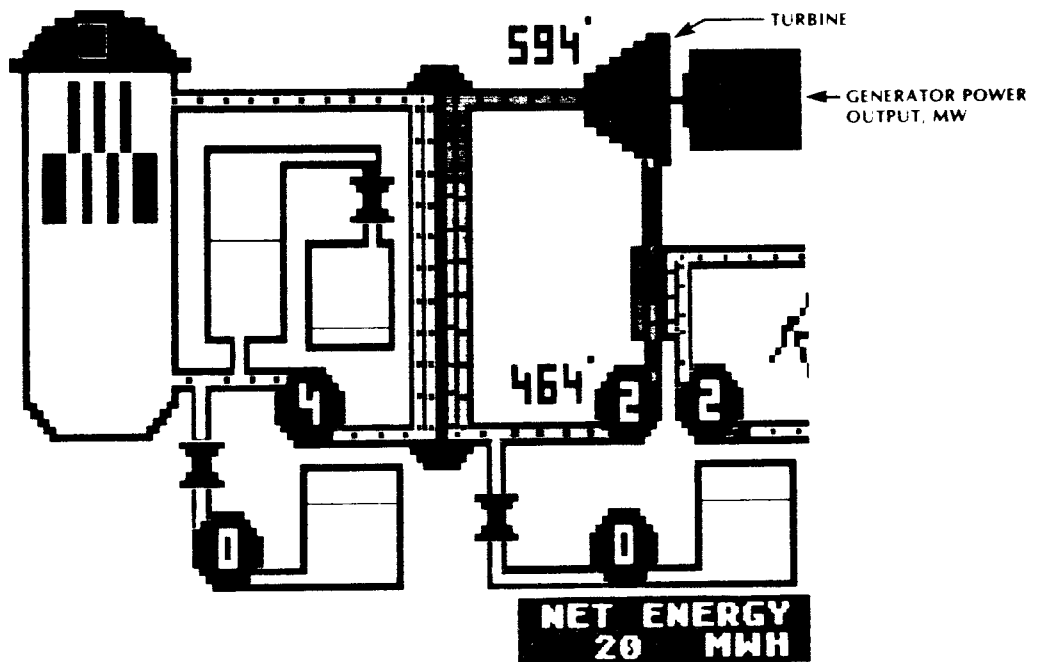

Figure 7. Turbine and Generator
Turbine and Generator. A turbine is a giant multilayered fan. If you can visualize a bottle brush spinning inside a bottle, you have a good mental picture of a turbine. The turbine is driven by a combination of "push" from steam entering the turbine and "pull" from steam being drawn into the condenser. The turbine drives the electricity generator, represented by the green rectangle (Figure 7). The rectangle displays the instantaneous power output of the generator, measured in megawatts (MW).